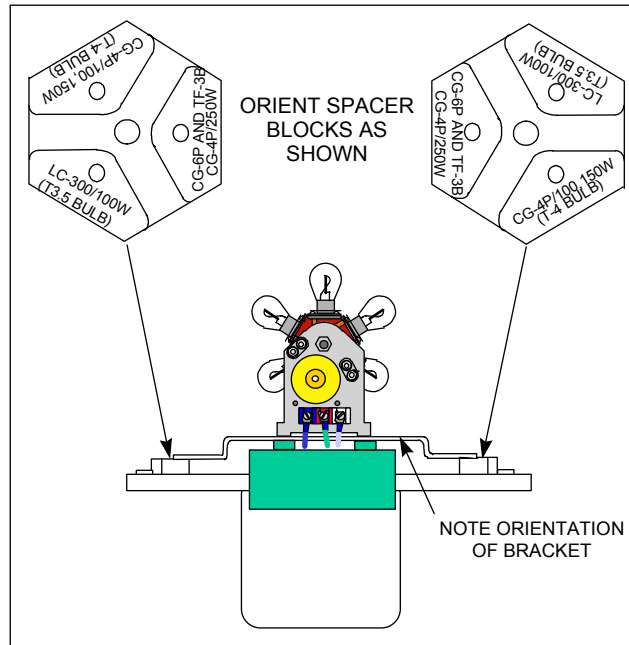

Figure 3-18
- f. Attach the mounting bracket between the base of the CG-6P(HW) lampchanger and CG-181(481) flasher with four 10-32x1" screws so that the dip in the bracket is **up** (cover "**CG6P**" stamped on bracket with lampchanger). The wires from the WK-681 wiring kit must pass **under** the bracket, shown in figure 3-18.
- g. Rotate the spacer blocks in the drum of the lantern to the correct lampchanger/lamp combination, as shown in Figure 3-18. Loosen the mounting screw and rotate the block until